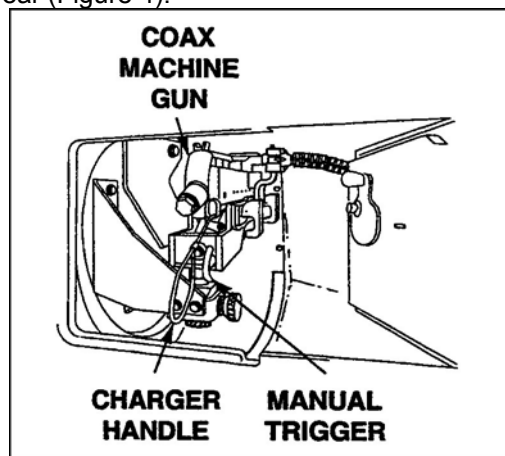

Figure 4. Charger handle.
- (1) Unlatch the commander's tactical display (CTD) from its bracket.
- (2) Release the handle on the right access door to open.
- (3) Pull out on the left side of the CTD to open the left access door.
- d. Lock the bolt to the rear (Figure 4).